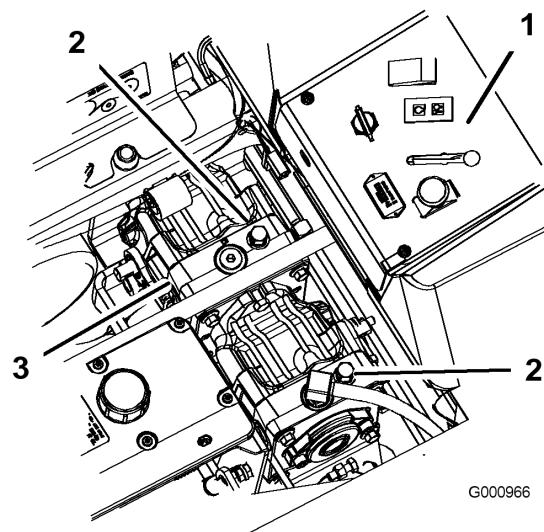

Figure 22
2. Rotate the by-pass valves counterclockwise 1 turn to push. This allows hydraulic fluid to by-pass the pump enabling the wheels to turn (Figure 22).
Rotate the by-pass valves clockwise 1 turn to operate machine (Figure 22).